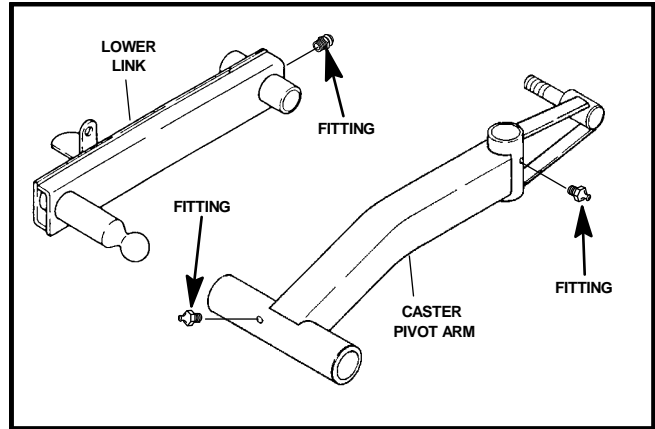

Figure 48
Use a lithium base pressure gun grease at the three (3) grease fittings every 20 hours of operation. Refer to the caster pivot arm and the lower link shown in figure 48.